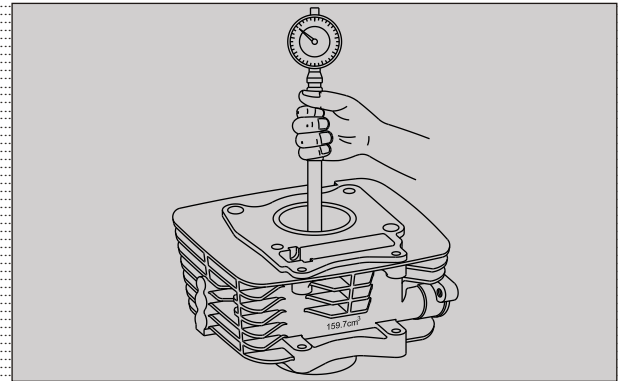
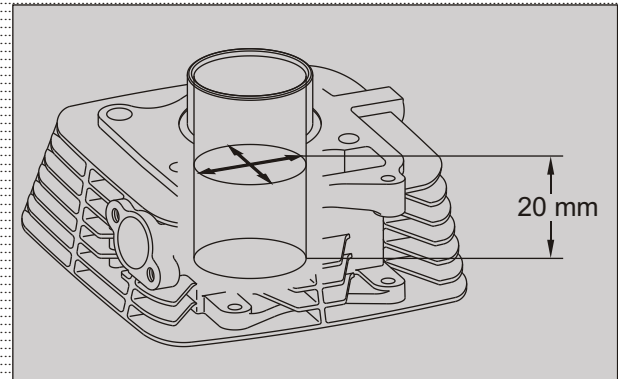

Fig. 3.159
Fig. 3.160
- The wear of cylinder wall is determined from the diameter reading taken at 20 mm from the bottom surface of the cylinder. (Fig. 3.159 and Fig. 3.160)